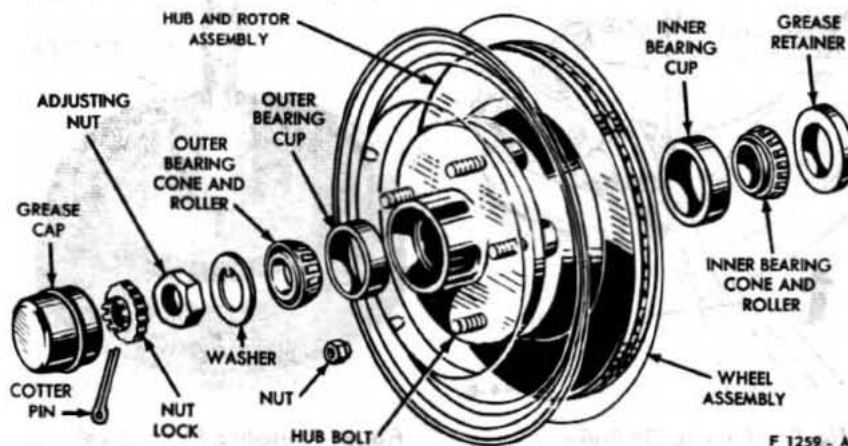

Fig. 92—Front Hub and Rotor, Bearings, and Grease Retainer
13. Pack the bearing cone and roller assemblies (Fig. 92) with wheel bearing grease. A bearing packer is desirable for this operation. If a packer is not available, work as much lubricant as possible between the rollers and cages. Lubricate the cone surfaces with grease.